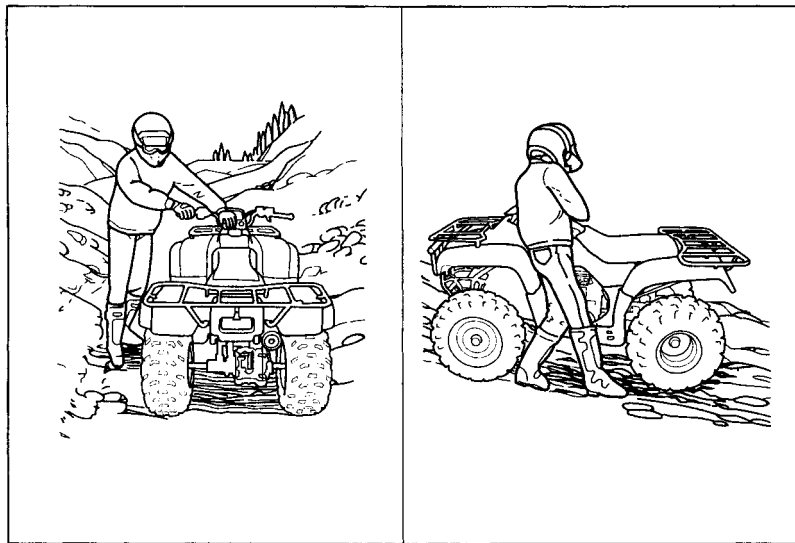

Fig. 3-14 Be sure your legs are clear of the wheels.
1. Stand with your body facing downhill, beside the vehicle so you can reach the rear brake lever with your right hand (see Figure 3-14).